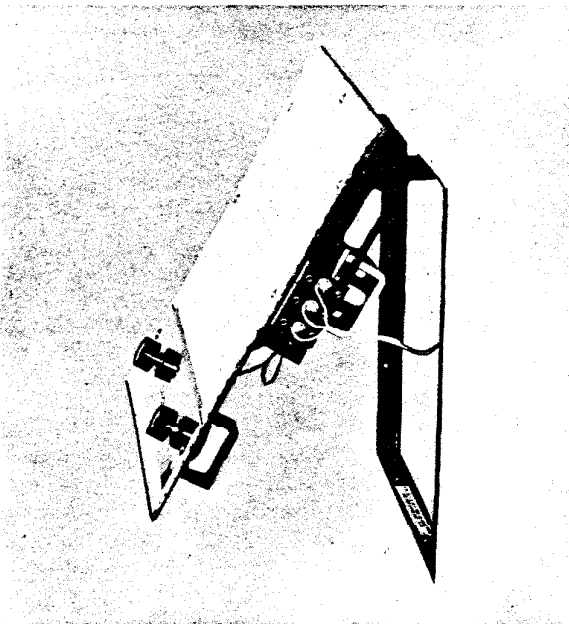

Fig. 11. Inside installation of Model 2020 remote speaker station.
2. Two slots are provided in the back edge of the speaker guard plate. Position these slots over studs on the rough-in frame and lock in place by sliding speaker unit to the left. This supports the speaker while both hands are left free to make connections to the speaker terminals on the speaker guard plate (Fig. 11).
3. Connect the three-conductor wire in wall frame to the speaker terminals on the speaker guard plate as follows (Fig. 11):